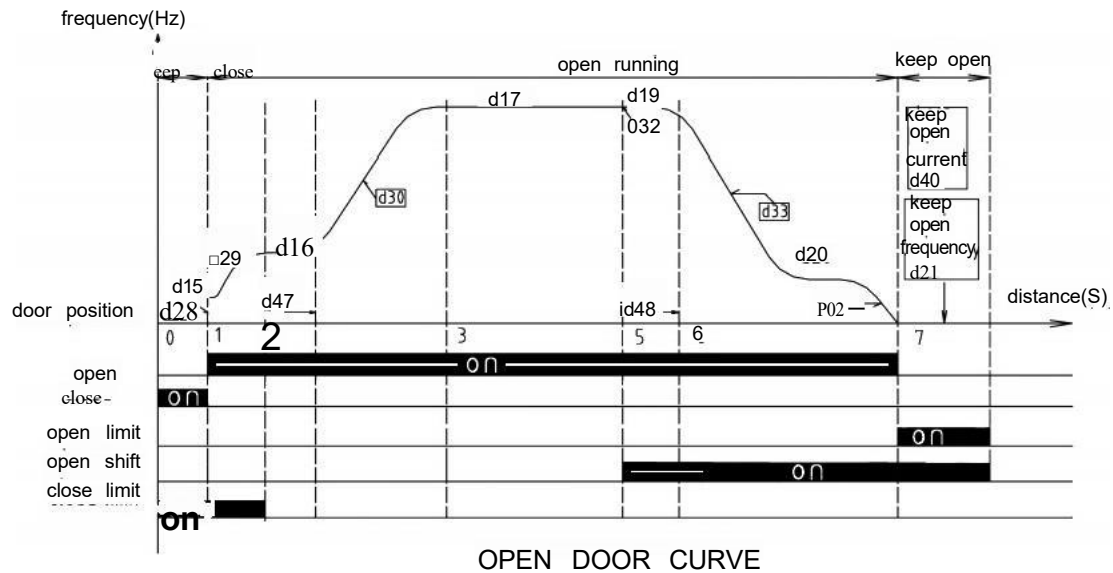
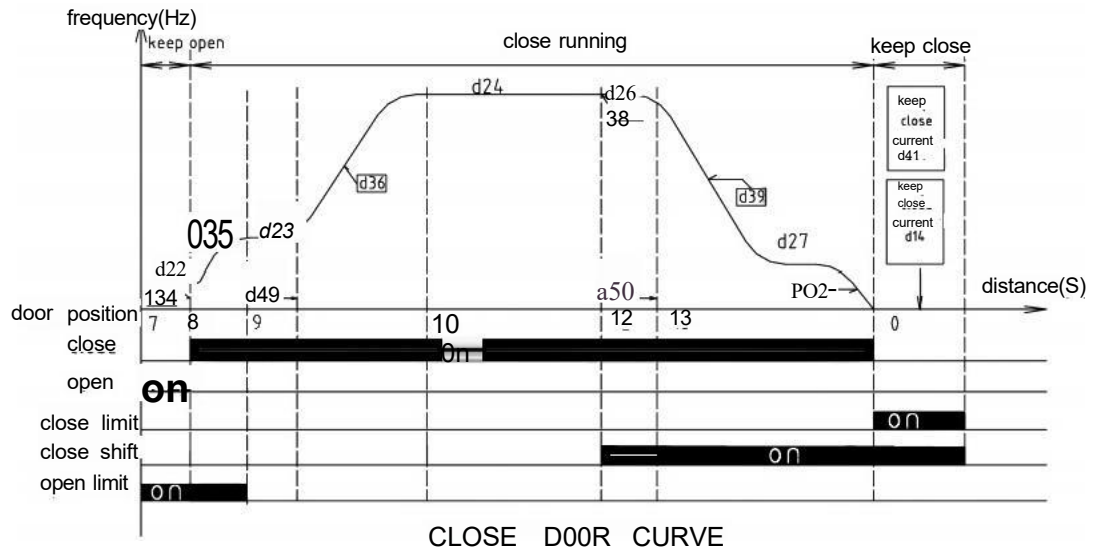

Figure 2
Figure 3
Before the door controller is sent out from factory, the Autotune of door width pulses and function parameters are completed. If user requires getting preferable running curve, he can modify the corresponding parameters refer to fig.2 & fig.3.
2. Refer to fig.2 & fig.3 and corresponding parameters (page:4,5), to get better capability through adjusting door running curve.